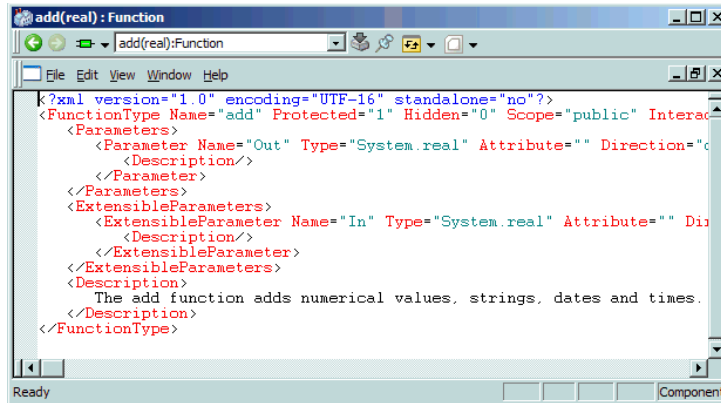

Figure 16. XML Type Description of an add (real) Function
- CB system functions, refer to Figure 16